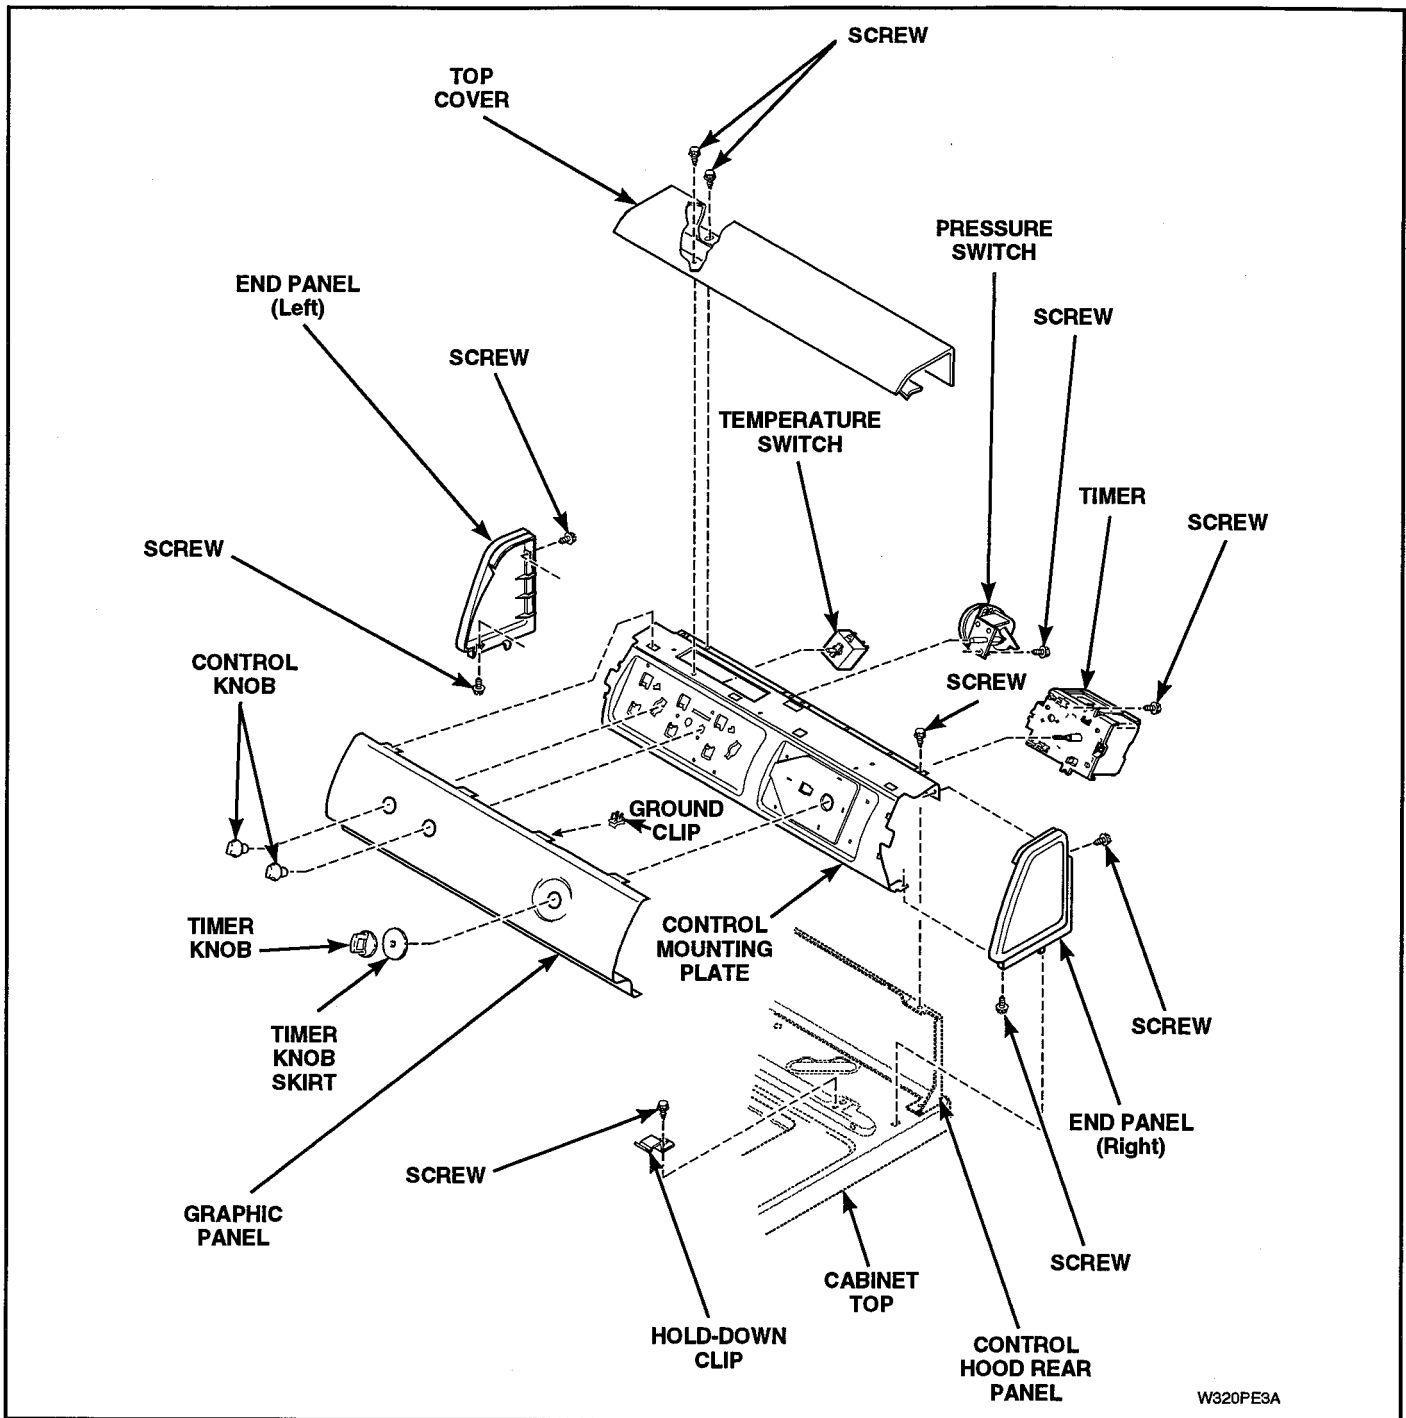

Figure 5-2
### 3. TIMER (Refer to Figures 5-2 through 5-5)
- Refer to Figures 5-2 through 5-5 for switch removal.
- Refer to Figures 5-2 through 5-6 for switch removal.
(Refer to Figures 5-2 through 5-6)